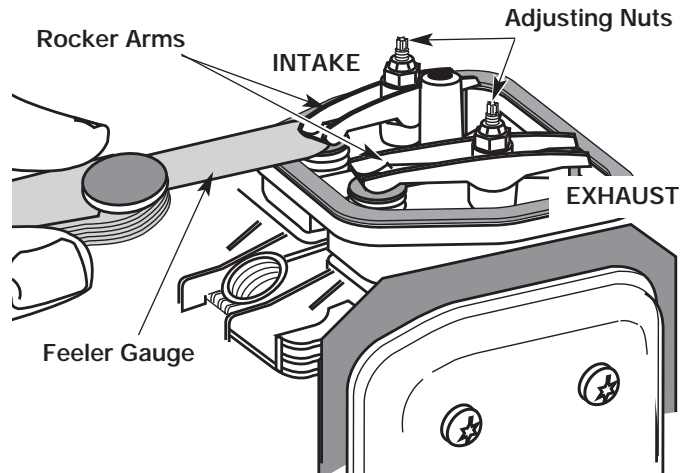
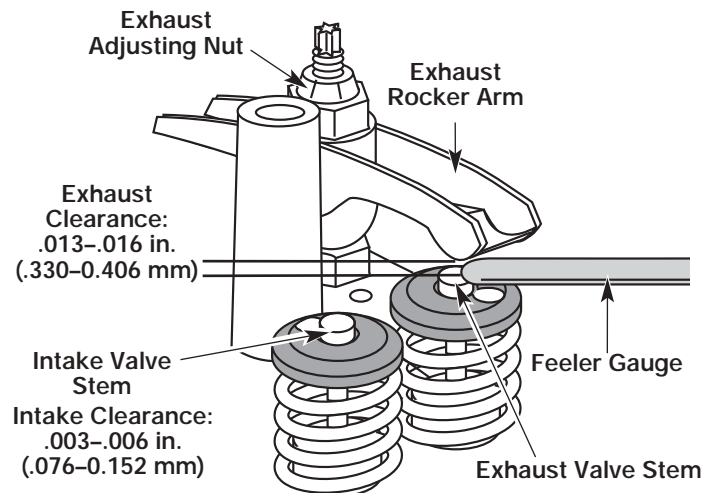

Fig. 45
Fig. 46
- Slide the feeler gauge between the rocker arm and the valve return spring. Measure the clearance between the valve stem and rocker arm (Fig. 45). Measure both the intake and exhaust valves.
Use a standard automotive .005 in. (0.127 mm) feeler gauge. The feeler gauge should slide between the rocker arm and valve stem with a slight amount of resistance, without binding. Figure 45 shows how to measure the intake clearance, while Figure 46 shows the exhaust clearance.
- Turn the adjusting nut using a 5/16 inch (8 mm) wrench or nut driver (Fig. 46).